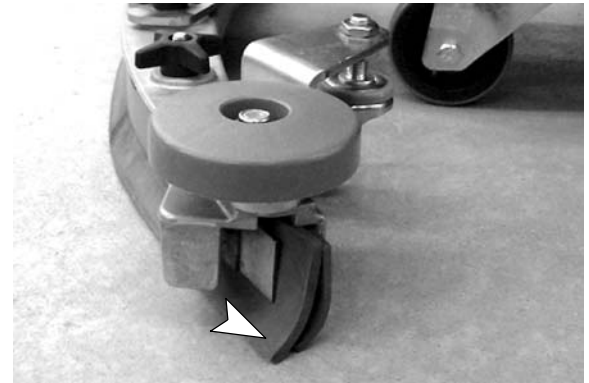

FIG. 56
- During machine operation, with the casters properly adjusted, the squeegee blades should deflect as shown (Figure 56).